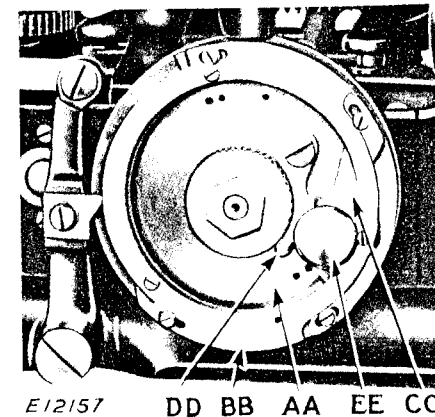

Fig. 37. Showing "Stop and Start" Pattern Wheel
One method utilizes a "stop and start" pattern wheel (AA, Fig. 37) upon which is mounted a pattern wheel ring (BB, Fig. 37) with a disengaging segment (CC, Fig. 37) which can be manually set to produce regular eyelet-end buttonholes or set to cause the sewing to suspend at a position near the eye end of the first side, which in turn starts the rapid feed to move the work
and the sewing resumed. To set the segment (CC) for straight buttonhole, unlock the latch (DD, Fig. 37) and push in the stud (EE, Fig. 37) and release latch (DD) to lock segment (CC) in this position. To set the segment for large eye, unlock the latch (DD) and pull out the stud (EE) and release the latch (DD). Insert the proper cutting block as listed for size and type of buttonhole. (See list of equipment marked *).